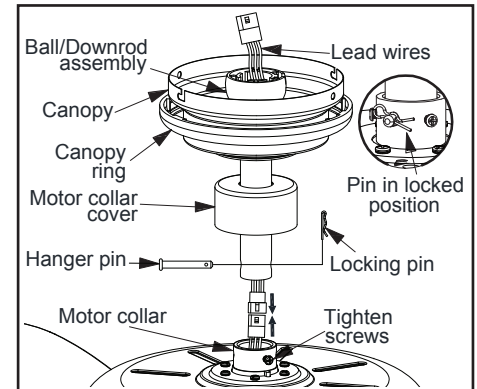

Figure 13
4. Place downrod over canopy and canopy ring, slide the motor collar cover onto the downrod. Connect the extension lead wires to the lead wires from motor. Make sure the quick connectors are clasped firmly. Route the wires through the ball/downrod assembly. (Figure 13)
6. Align the holes at the bottom of the downrod with the holes in the collar on top of the motor housing. (Figure 13)
7. Carefully insert the hanger pin through the holes in the collar and downrod. Be careful not to jam the hanger pin against the wiring inside the downrod. Insert the locking pin through the hole near the end of the bolt until it snaps into its locked position, as noted in the circle inset of Figure 13.